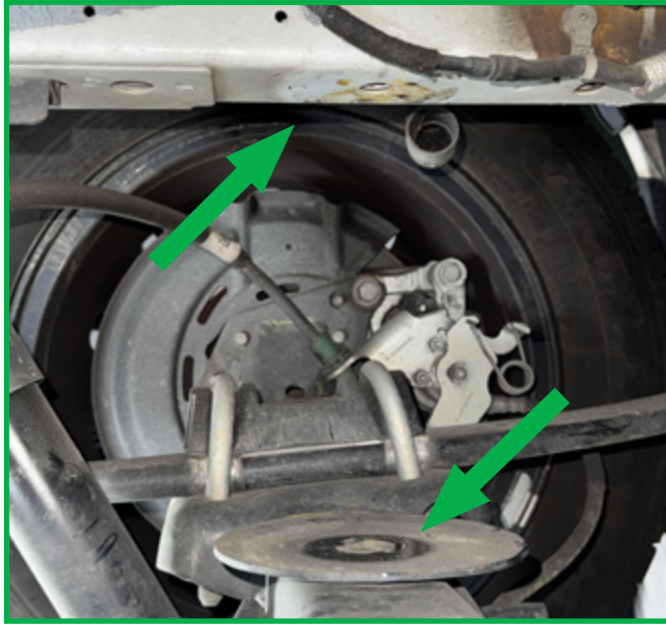

FIGURE 3
3. Clean the surface by removing all dirt and dust. (Figure 3)